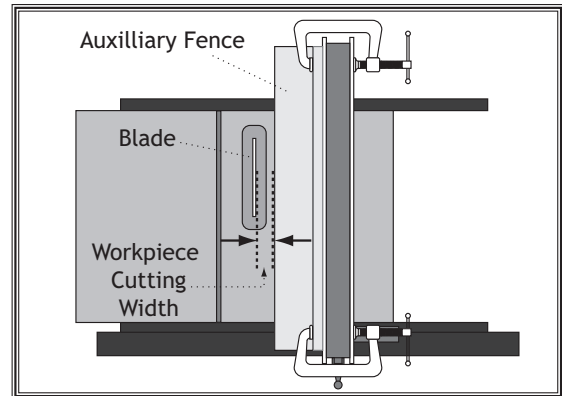

Figure 85. Adjusting ripping distance between blade and auxiliary fence.
1. Place the auxiliary fence on the table and clamp it to the fence at both ends, then adjust the distance between the auxiliary fence and the blade—this determines how wide the workpiece will be ripped (see **Figure 85**).